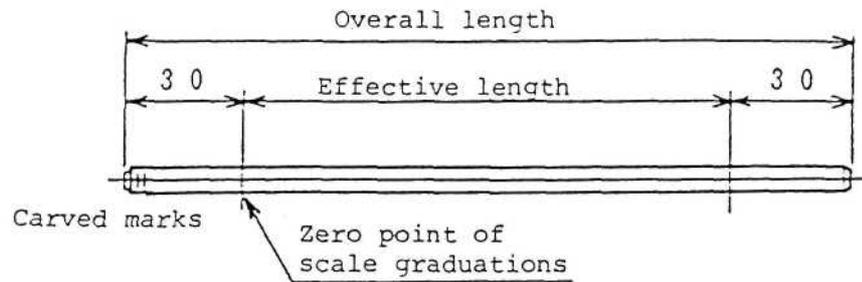

Fig. 2
- 4-1). The zero point of scale graduations is positioned as shown in Fig. 2. The magnetic graduations are recorded on the overall length; however, pay attention that the specified accuracy is obtained just within